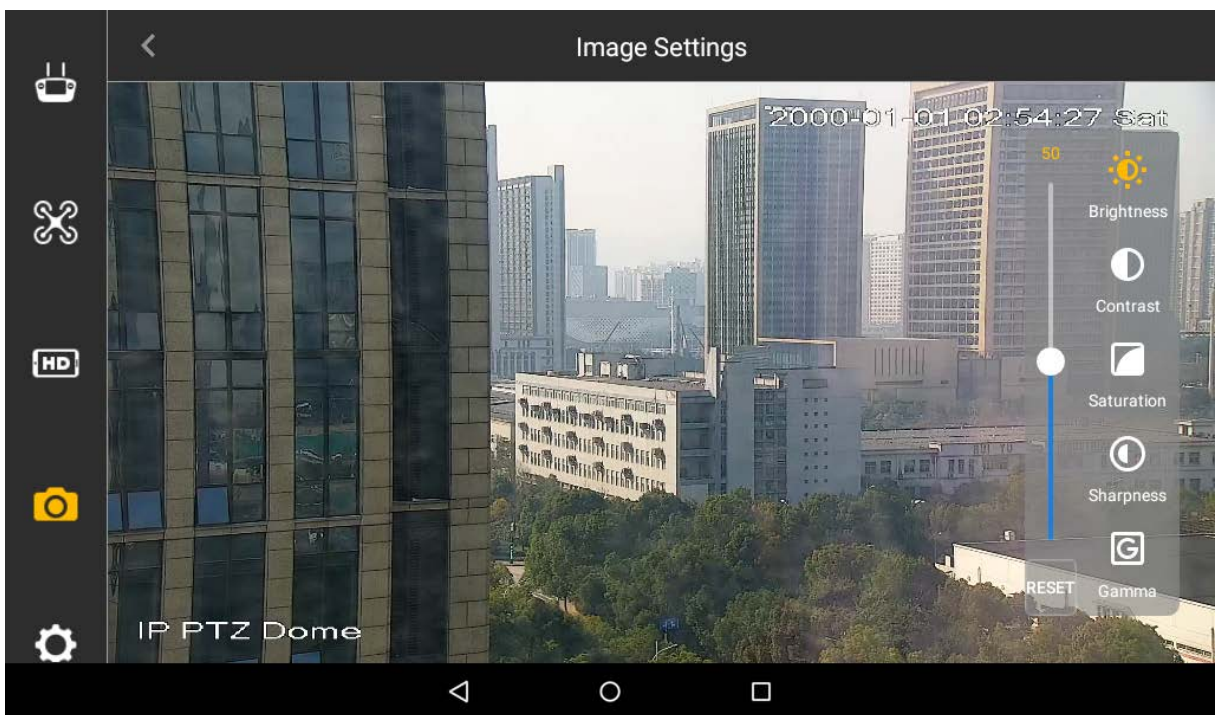

Figure 4-31
- The system displays “Image Settings” interface, as shown in Figure 4-31.